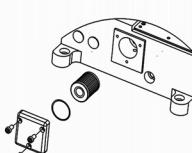

图7(Fig.7)
(3) 滤油器的更换(图7)
3. Replacing oil filter: (Fig.7)